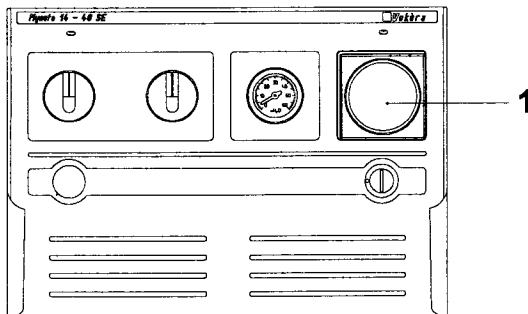

Fig. 1
- (A) Fitting Vokera 24 hour time switch (part no. 032 G.C. no. 301 110), fitting Vokera digital 7 day time switch (part no. 05 G.C. no. 301 109) and Vokera 2 channel programmer (7 Day) (part no. 081 G.C. no. 370 395).**
- (B) Wiring to external time switches, room thermostats and frost thermostats.**
- (C) Wiring to 'Y' plan or 'S' plan installations.**
Remove the clock aperture blanking plate (1) (fig. 1) by squeezing the four lugs on the rear of the plate together and push the plate out.
Remove the clock aperture blanking plate (1) Fig. 1. by squeezing the four lugs on the rear of the plate together and push the plate out.